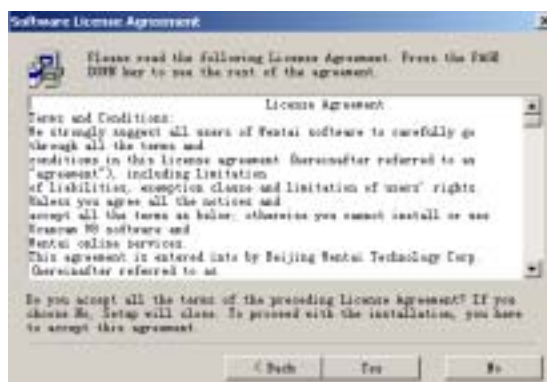

Fig. 1-3
5. Click Next, and the License Agreement dialog is shown. (Fig.1-3) Please read it carefully as this program is protected by copyright law, and any copying or spreading of the program without authorization from Wentai Technology Co., Ltd is subject to civil and criminal sanction. Click Yes to continue installation, and click No to exit installation.